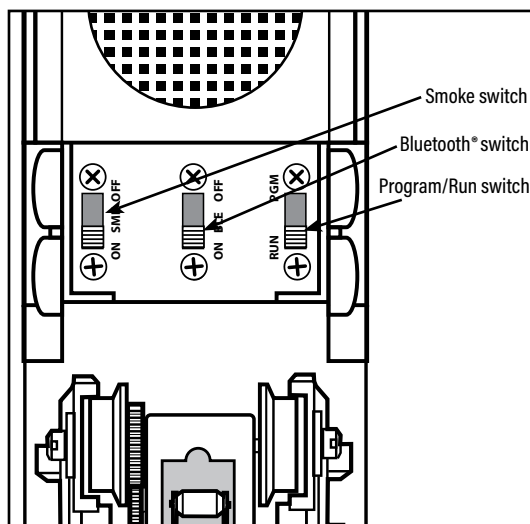

Figure 6. Switch locations
Note! If your locomotive is running in Conventional mode, it can be interrupted by a Bluetooth® enabled Control device. If you do not wish for this to happen, locate the Bluetooth® mode ON/OFF switch and move it to the OFF position. Refer to Figure 6 on page 8.
1. Slide the program run switch on your locomotive to the PROG position. See Figure 6 on page 8.